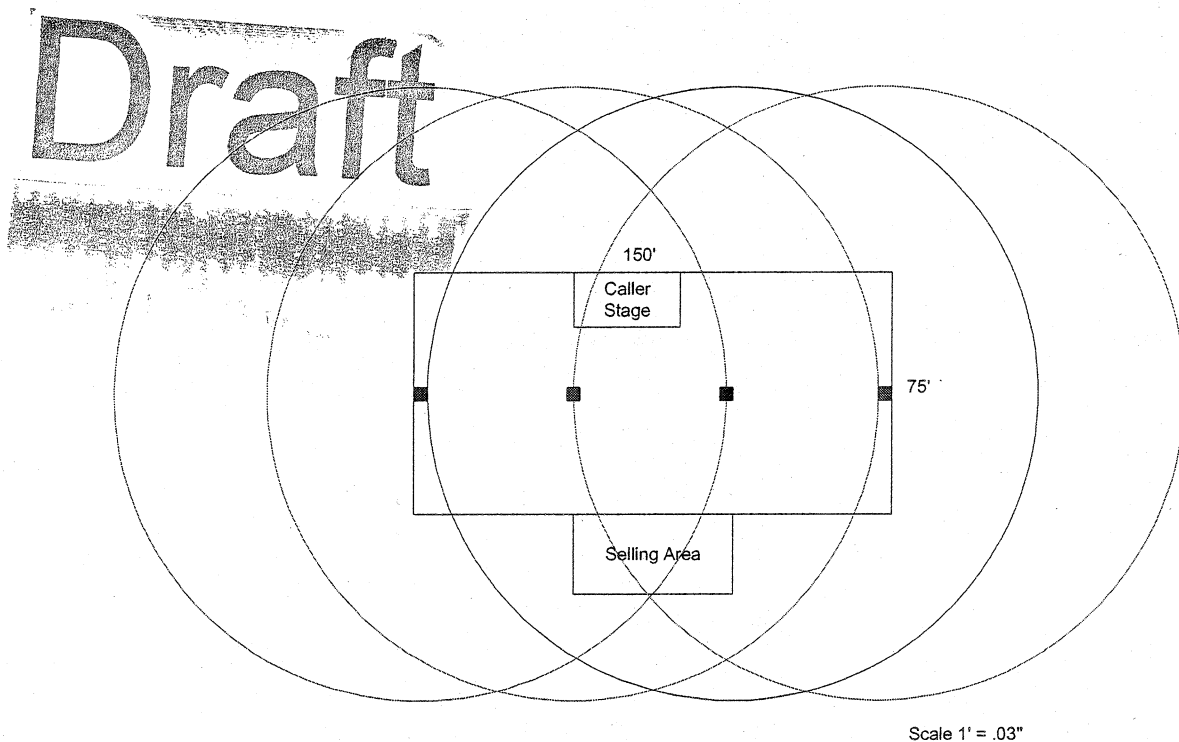

Figure 5. Sample Hall Diagram
Use the site survey form to begin the evaluation of RF in a bingo operation. Diagraming the hall is an important step to lay out the necessary testing areas. Figure 5 provides a sample hall on which to base your diagram. If the hall has more than one room, each room will need to be divided individually. Create an architectural diagram of the hall using the graph paper located in the site survey form.
- Using the site survey form to create a diagram, cut out four circles representing the 100' radius of the transmitters. Adhere to the rule that each location on the floor must be able to see at least two transmitters. The sample hall in Figure 5 displays the radiation patterns of each respective transmitter. (The scale of the drawing has been reduced for this document.)